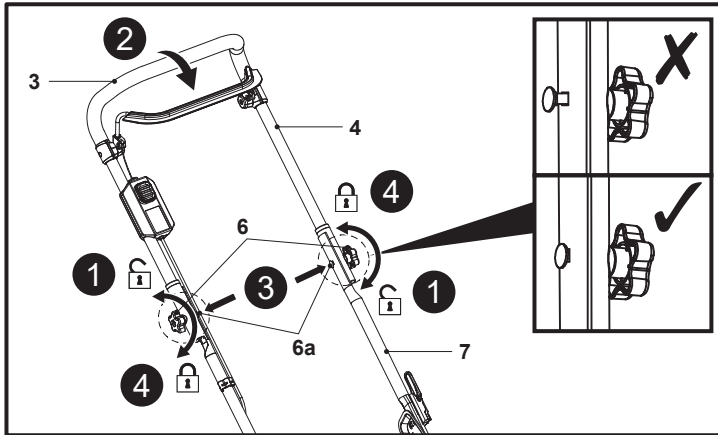

Fig. 3
4. Fully loosen the two lock knobs (6) but don't remove them, then grasp the grip handle (3) and keep rotating the handle assembly until the upper handle bar (4) aligns with the low handle bar (7) (Fig. 3, steps 1, 2).
5. Pass the mounting bolt (6a) through the mounting holes to the end and secure the upper handle bar (4) by turning the lock knob (6) clockwise (Fig. 3, steps 3, 4).